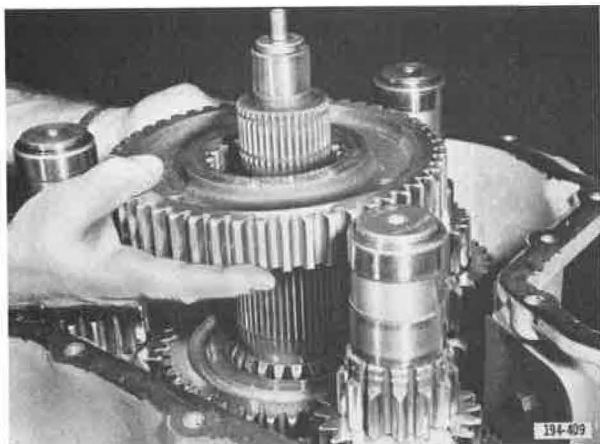

Figure 5-519. Installing Gear
23. Install second speed gear (beveled side of clutch teeth toward front of transmission), and engage with countershaft second speed gears. See Figure 5-519.